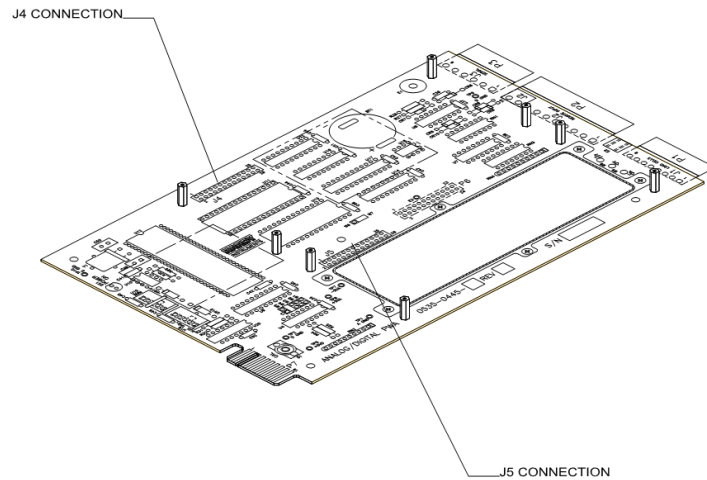

Figure 2-3
8. On the solder side of the PROFIBUS Interface Card, the side opposite the components, there is a pin connector. (See Fig. 2-3)